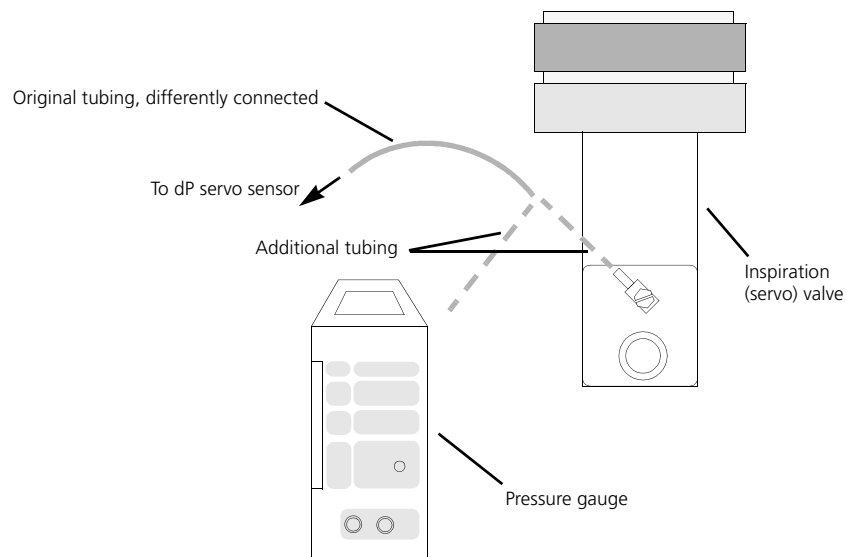
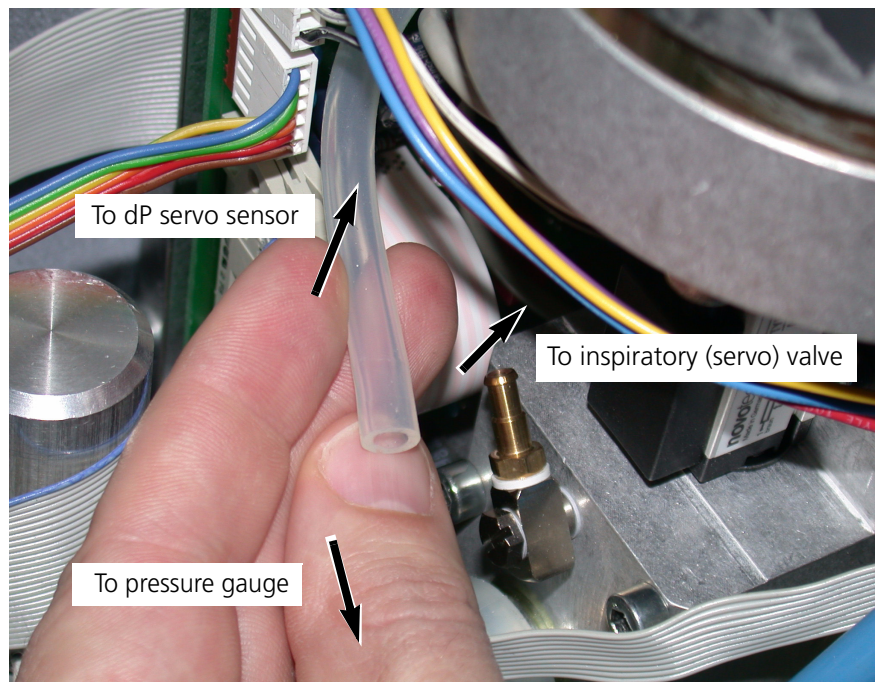

Figure 9-21. Setup for the dP Servo full-scale calibration
Figure 9-22. Tubing setup for the dP Servo full-scale calibration
2. Build and connect the tubing setup shown in Figure 9-21 and Figure 9-22. On the pressure gauge use a probe suitable for reading approximately 500 mbar. A pressure of 200 to 500 mbar is generated by GALILEO.